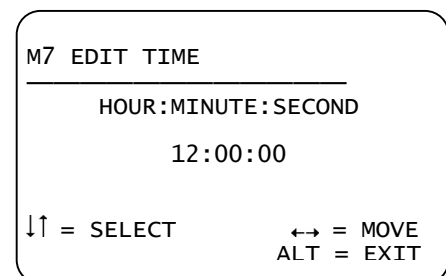

Figure 16. Edit Time menu
- 4) Press **1** to advance to the Edit Time menu (Figure 16).